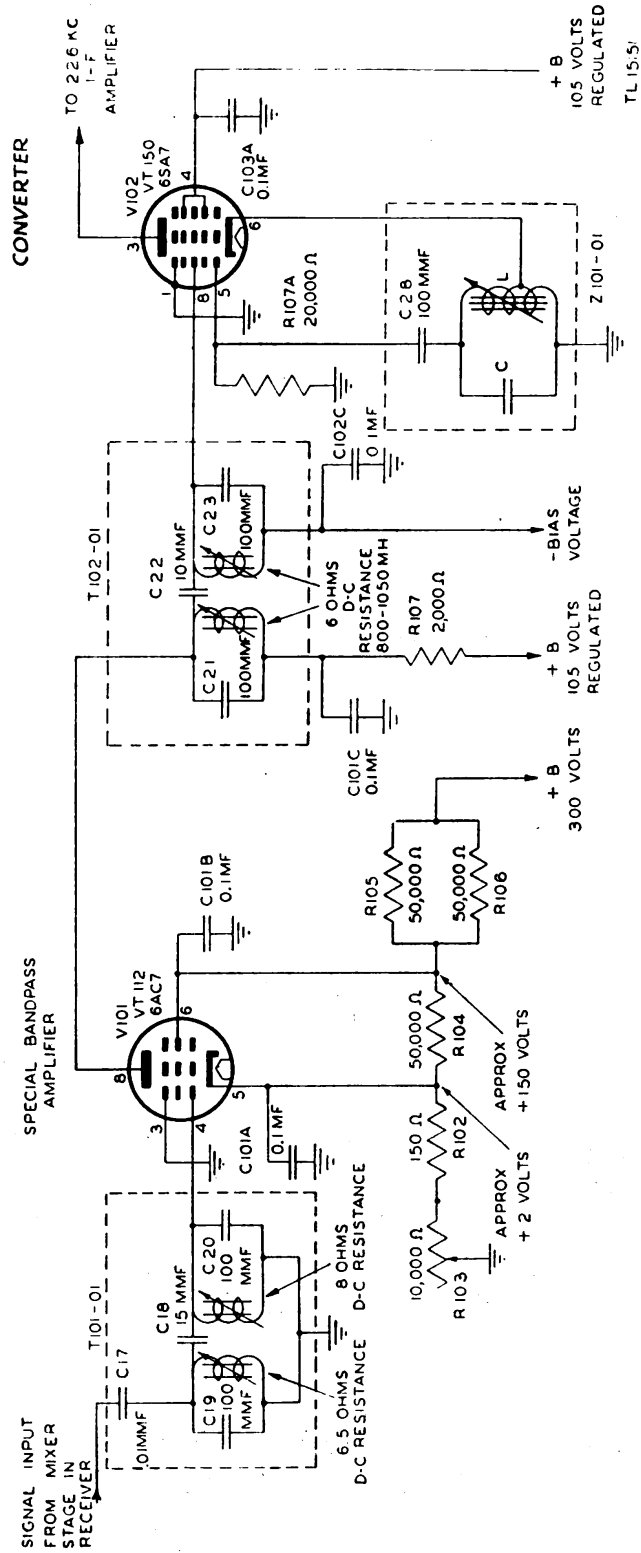

Figure 9. Simplified schematic diagram of special band-pass amplifier and converter stages.
Figure 9 shows a simplified schematic diagram of the special band-pass amplifier and converter (mixer and oscillator) stages of Panoramic Adaptor BC-1031-A. In order to simplify the explanation of the oscillator circuit at this time, the phase-shifting, resistance-capacitance network (R8, C31, R11, C32) and other parts and connections of the reactance modulator are not consid-
(2) **SIGNAL INPUT.** The signal input is passed from the plate of the mixer stage in the receiver through an isolating resistor (not shown in fig. 9), coupling capacitor C17, and enters the L-C resonant tank circuit which makes up the primary of transformer T101-01 (T101-02 in BC-1032-A).
(2) The control grid receives two a-c voltage inputs. One input is a high-frequency voltage from the composite coil Z101-01 which is coupled through capacitor C32. The other input is the saw-tooth voltage from the sweep generator. For the time being, assume that potentiometer R123 is turned completely counterclockwise so that no saw-tooth voltage input is impressed on the control grid.
(3) Coil L and capacitor C29 can also be assumed to be the basic tank circuit of the high-frequency oscillator tube V102, corresponding to L and C in figure 9. The shunt resistor R9 lowers the Q of the tank circuit and has very little influence on the resonant frequency.